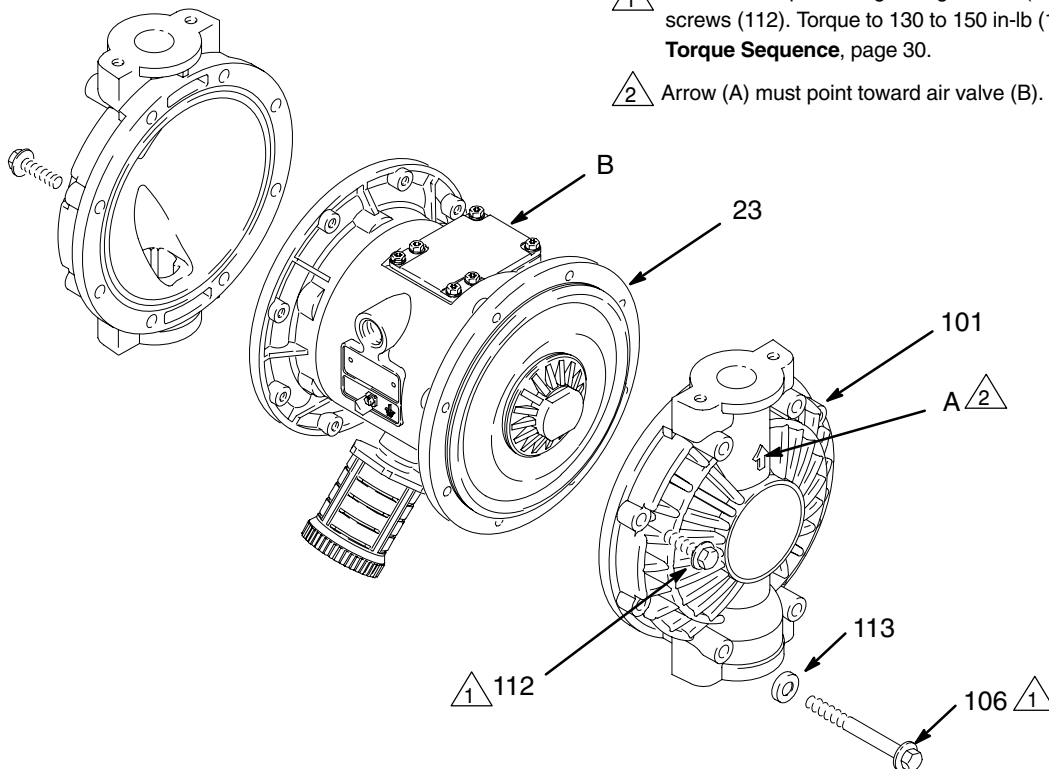
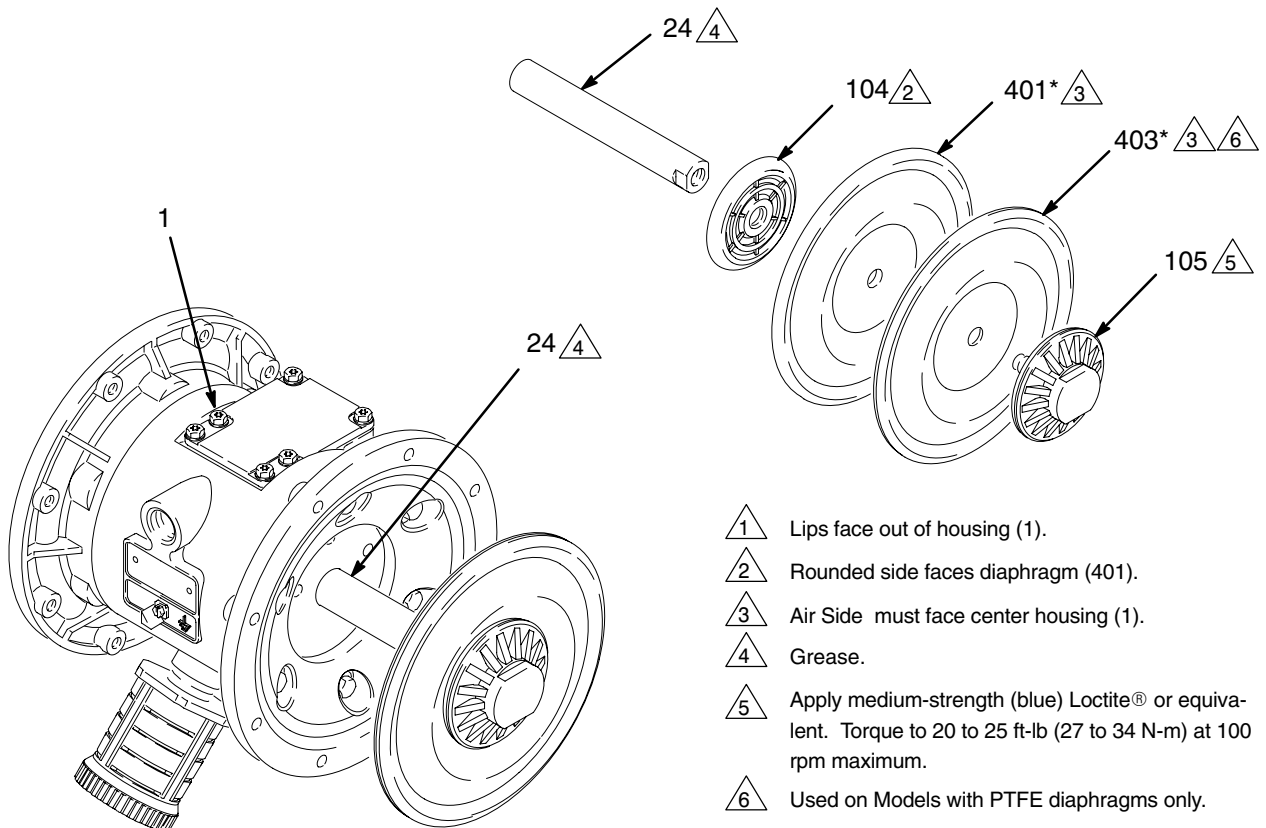

Fig. 12
Fig. 13
3. Using a 10 mm socket wrench, remove the screws (106 and 112) holding the fluid covers (101) to the air covers (23). Pull the fluid covers (101) off the pump. See Fig. 12.
4. Unscrew one outer plate (105) from the diaphragm shaft (24). Remove one diaphragm (401), and the inner plate (104). See Fig. 13.
1. Grease the shaft u-cup packings (402*) and install them so the lips face **out** of the housing (1). See Fig. 13.
2. Grease the length and ends of the diaphragm shaft (24), and slide it through the housing (1).
3. Assemble the inner diaphragm plates (104), diaphragms (401*), PTFE diaphragms (403*, if present), and outer diaphragm plates (105) *exactly* as shown in Fig. 13. These parts **must** be assembled correctly.
4. Apply medium-strength (blue) Loctite® or equivalent to the threads of the fluid-side plates (105). Hold one of the outer plates (105) with a wrench, and torque the other outer plate to 20 to 25 ft-lb (27 to 34 N-m) at 100 rpm maximum. **Do not over-torque.**
5. Align the fluid covers (101) and the center housing (1) so the arrows (A) on the covers face the same direction as the air valve (B). Secure the covers with the screws (106 and 112), handtight. Place the bolt caps (113*) on the longer screws (106), and install the longer screws in the top and bottom holes of the covers. See Fig. 12.
6. First, torque the longer screws (106) oppositely and evenly to 130 to 150 in-lb (14 to 17 N•m), using a 10 mm socket wrench. Then torque the shorter screws (112). See **Torque Sequence**, page 30.
6. Remove the air cover gaskets (22). Always replace the gaskets with new ones.
7. Use a bearing puller to remove the diaphragm shaft bearings (19), air valve bearings (12) or pilot pin bearings (15). Do not remove undamaged bearings.
8. If you removed the diaphragm shaft bearings (19), reach into the center housing (1) with an o-ring pick and hook the u-cup packings (402), then pull them out of the housing. Inspect the packings. See Fig. 13.